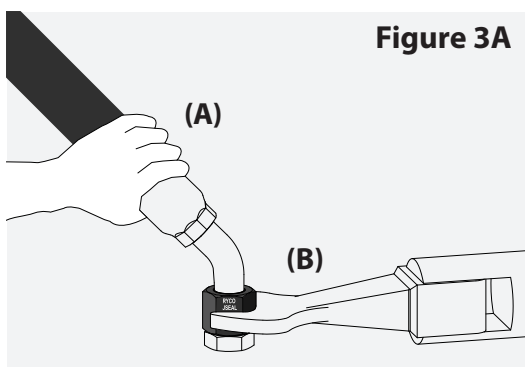

Figure 3A
2. Using your hand (A), firmly restrain the coupling body (as shown in Figure 3A) to prevent it from rotating.
3. While holding coupling in position by hand (A), engage torque wrench (B) and tighten the black JSEAL™ nut to the corresponding assembly torque value listed in Table 1 herein.